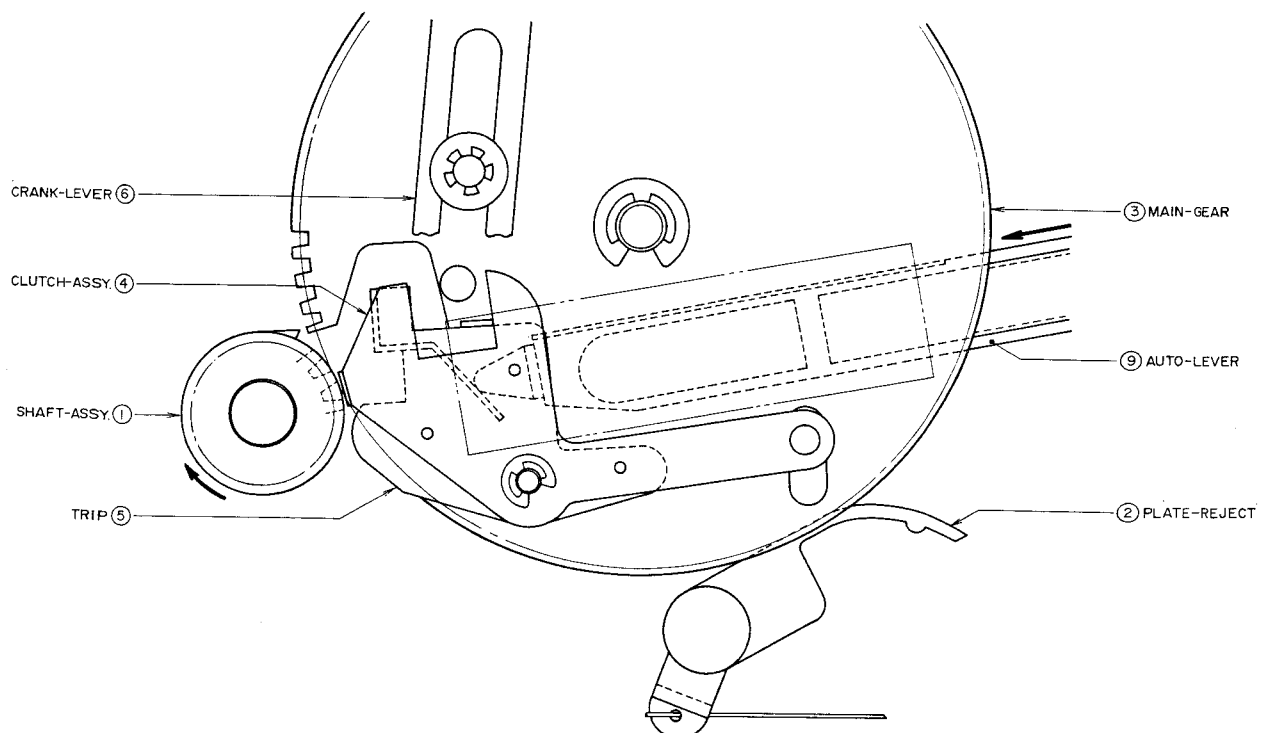
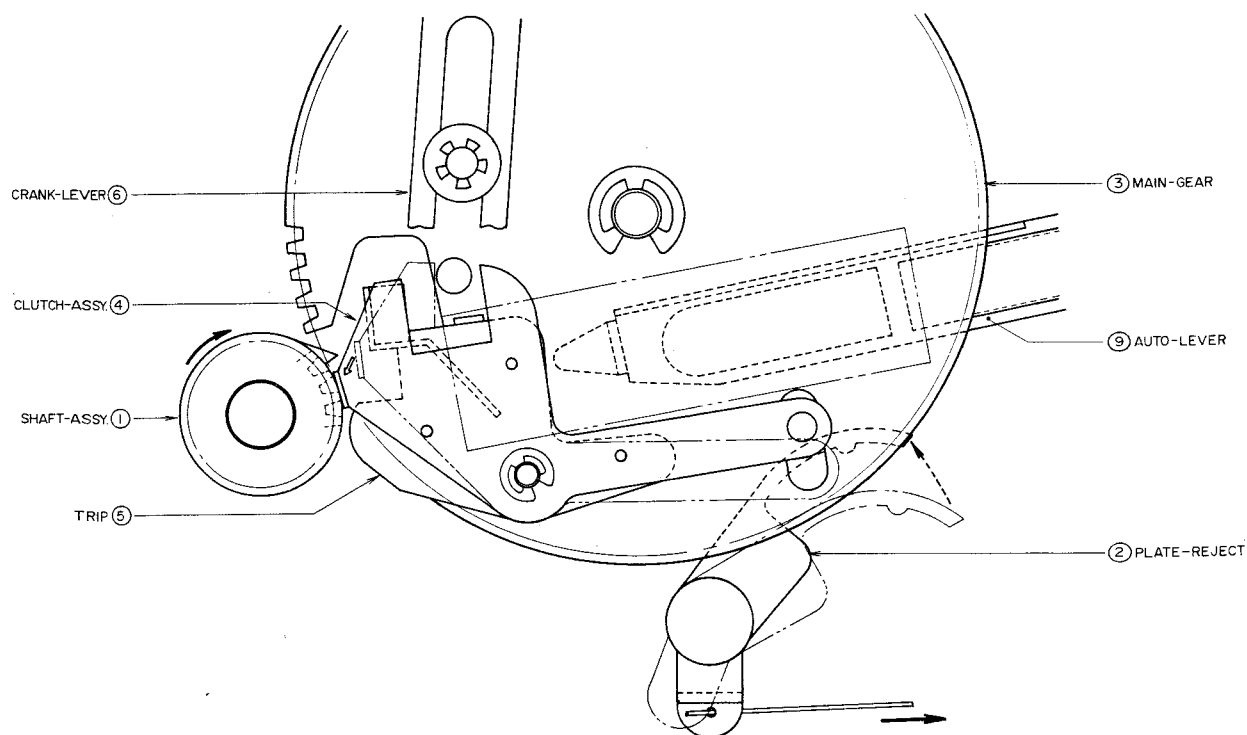

Fig. 5 PICK UP ARM STYLUS TIP IN VICINITY OF 126°
Fig. 13 FORCE CUT
In due time the pick up stylus finishes sound groove tracing and about the time it enters the lead-out groove, the tip of AUTO-LEVER (9) begins to push the skirt part of TRIP (5) and the CLUTCH ASSY (4) which rides lightly on this part is pushed out toward the TABLE SHAFT ASSY (1) (shown in Fig. 5, when the pick up stylus is at a about 126 mm position from the turntable).
When listening to a record and you wish to stop in the middle of a performance, or when playing a record not according to specifications, and the stylus tip has advanced to the last groove, simply bring the cut lever forward. This moves PLATE REJECT 2 which pushes PLATE JOINT (13), then POLE REJECT (15) and ultimately CLUTCH ASSY (4) is pushed as shown in Fig. 13. (\leftarrow mark). Then return operation commences and the power source is turned OFF (Refer to Item 1 above and Fig. 5).